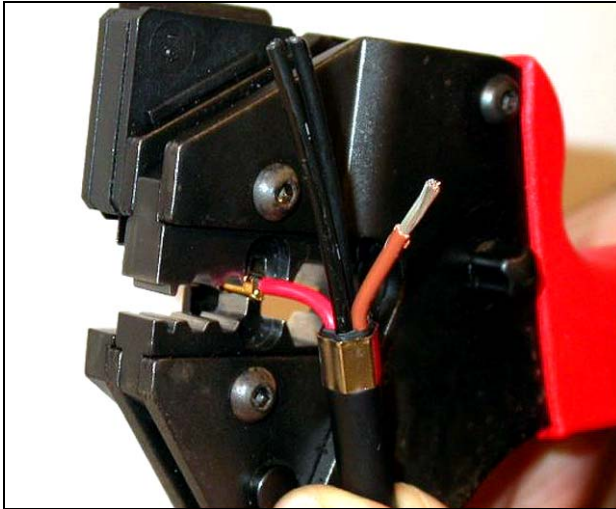

figure 3.10: Crimping a socket contact (2)
- 11 Slide one of the stripped, copper wires into the contact area of the socket contact and close the crimping tool to crimp the socket contact onto the copper wire (see figure 3.10).